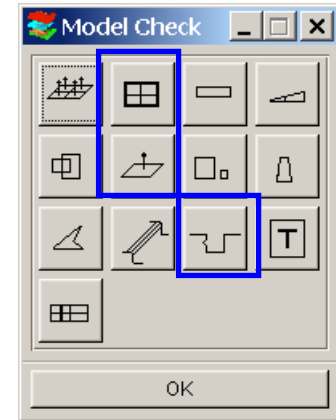

Figure 6.6
- a) Select **MODEL CHECK** (Figure 6.6)